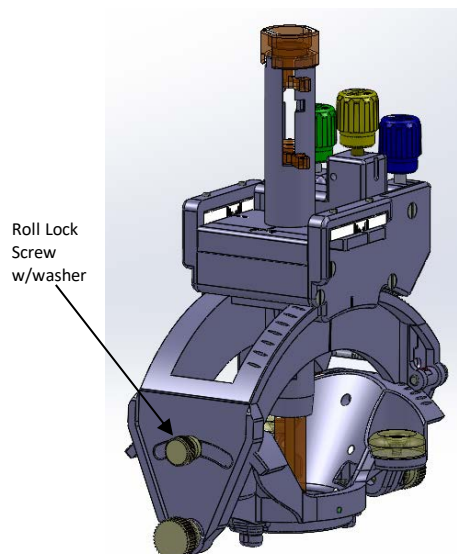

Figure 6: Roll Lock Screw w/washer
10. Remove the Roll Lock Screw w/washer from the SMARTFrame XG package to pre-mount in SMARTFrame XG. Screw in partially to the appropriate location on the SMARTFrame XG. See Figure 6. Ensure the Roll Lock Screw w/washer is not tight. This screw will be tightened later in the procedure.
5. The Roll Lock Screw w/washer must be tightened after the final roll adjustment is complete. **See Figure 6.** The Roll Lock Screw w/washer must be loosened, for subsequent roll adjustments.